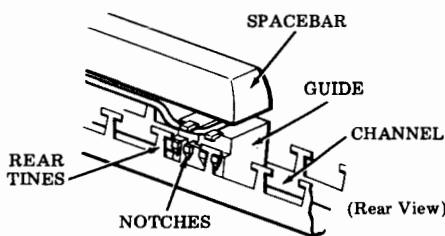

Fig. 2—Spacebar Removal
- (b) Disengage the two rear tines (one at each end of spacebar) with a small screwdriver while pulling the spacebar up and toward the front (Fig. 2).